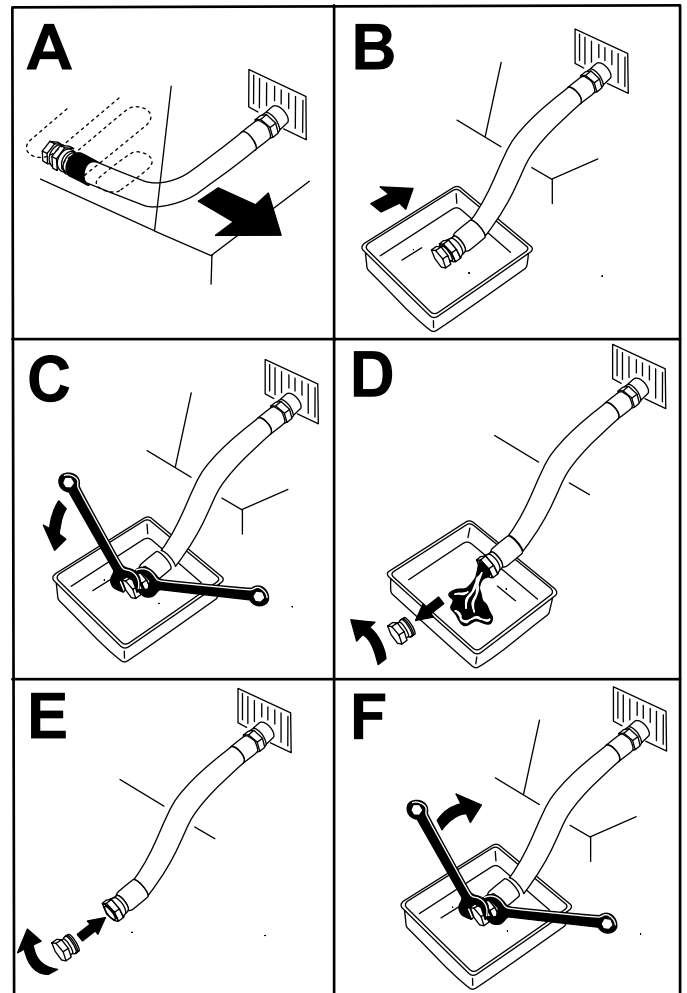

Figure 47
3. Drain the oil from the engine (Figure 47).